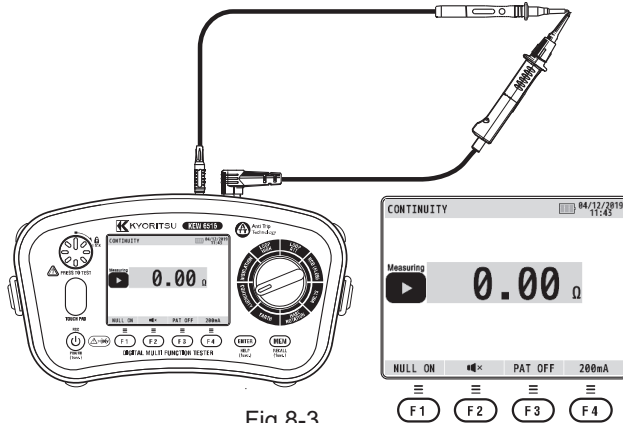

Fig.8-3
- (3) Connect the ends of the test leads firmly together (see Fig. 8-3) and press and lock down the test switch. The value of the lead resistance will be displayed. The "▶" symbol is displayed to the left of the reading during a measurement.
- (4) Press the F1(NULL) switch, this will null out the lead resistance and the indicated reading should go to zero.
- (5) Release the test switch. Press the test switch and ensure the display reads zero before proceeding. While using the Continuity null function, "NULL ON" is displayed on the LCD as indicated in Fig.8-3.